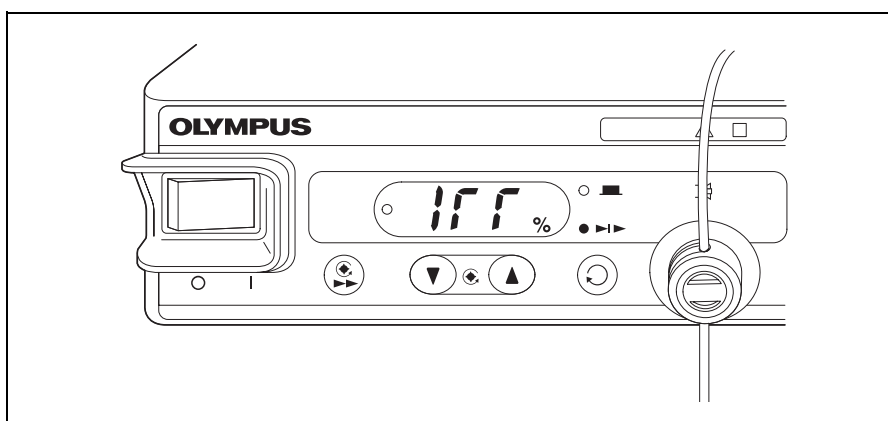

Figure 5.2
3. When the hand piece plug of the transducer (SonoSurg-T2L-GE/SonoSurg-T2L-GE-C) is not connected properly, “HP” flashes on the ultrasonic output setting indicator of the generator, and “Irr” is displayed on the irrigation level setting indicator of the irrigation unit (see Figure 5.2).